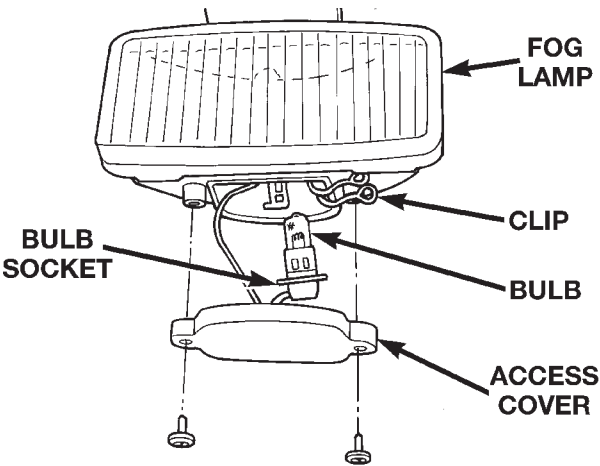

Fig. 2 Fog Lamp Components
- (1) Remove the screws attaching the access cover to the bottom of the fog lamp (Fig. 2).
- (2) Remove spring clip securing bulb to fog lamp.
- (3) Disconnect wire connectors at bulb.
- (4) Remove bulb element from fog lamp.